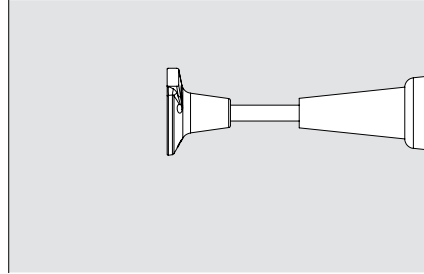

Fig. A2.04a
- Climbing Cone-2 M24/DW 15 (Fig. A2.04a)